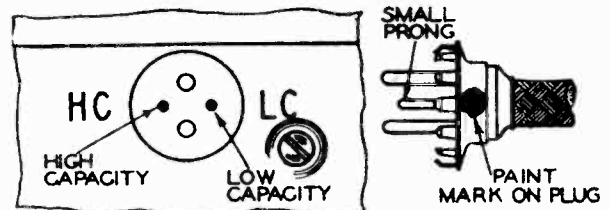

Fig. 10—Antenna Plug Insertion
(1) With 250,000 Ohm Meter
(2) Read Across Filter Choke
**IMPORTANT**—If the car antenna is of high capacity (600 mmf. or higher) insert the antenna plug with the mark on the HC side—See Fig. 10. If it is a low capacity antenna, insert the plug with the mark on the LC side.